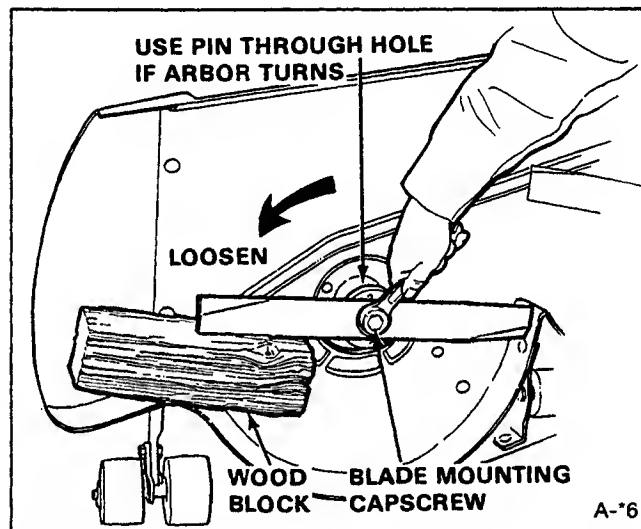

Figure 19. Removing Blade
2. Position the mower as in figure 19. Secure the mower so it will not fall or slide.
4. To remove the blade for sharpening, use a wooden block to hold blade while removing the capscREW (figure 19). Position the wrench as shown so that your hand will not fall onto the blade cutting edge if wrench slippage occurs.